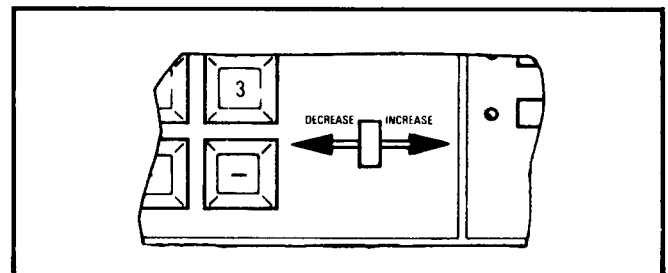

Figure 3-6. INCREASE/DECREASE Lever
c. INCREASE-DECREASE Lever (Figure 3-6). When enabled by a parameter pushbutton (F1, SWEEP TIME, LEVEL, etc.), this lever may be used to increase or decrease the parameter's value. The length of lever travel, either right or left, determines the rate at which the parameter's value increases or decreases. To increase or decrease the parameter's value in one increment steps, "tap" the switch in the direction of desired change. When the lever is "tapped," a frequency parameter will change in 1 MHz increments. An RF level parameter will